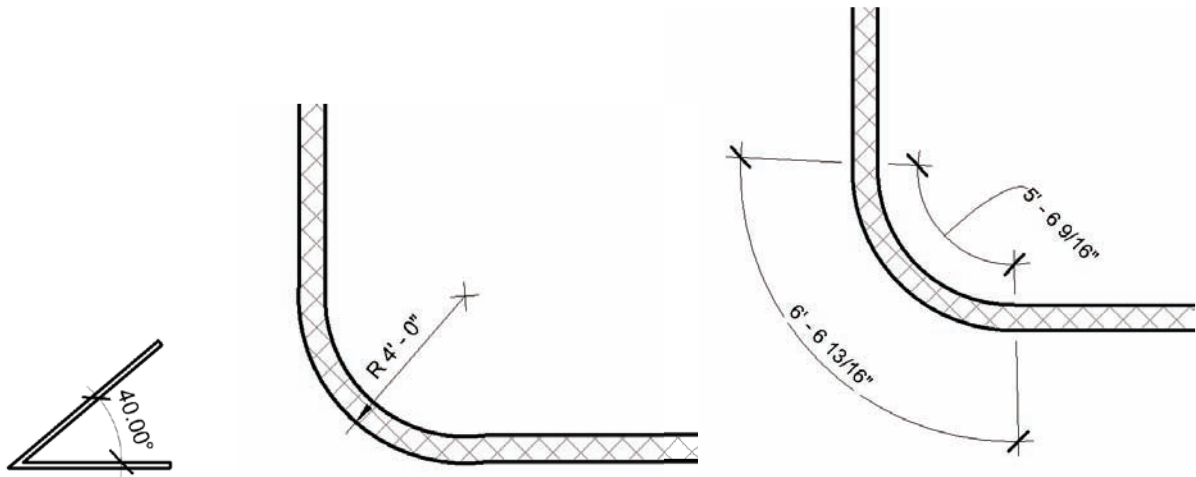

Figure 4.20
- **Angular** dimensions show the angles between two selected elements that share a common intersection (see Figure 4.20).